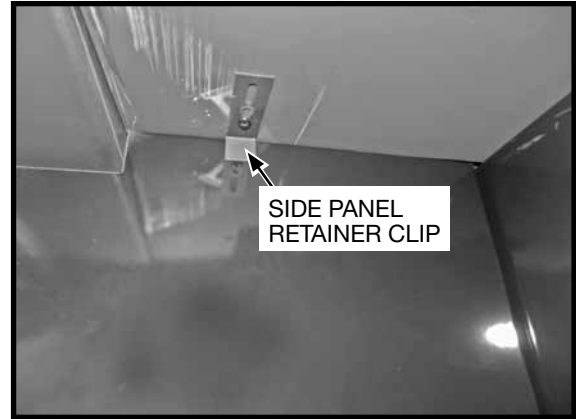

Figure 59: Retainer clip holding up the right side panel.
1. Remove the side panel retainers located on the underside of the firebox heat shield. The retainers are each held in place by one screw (Figure 59).
5. Reinstall side retainers (Figure 59).